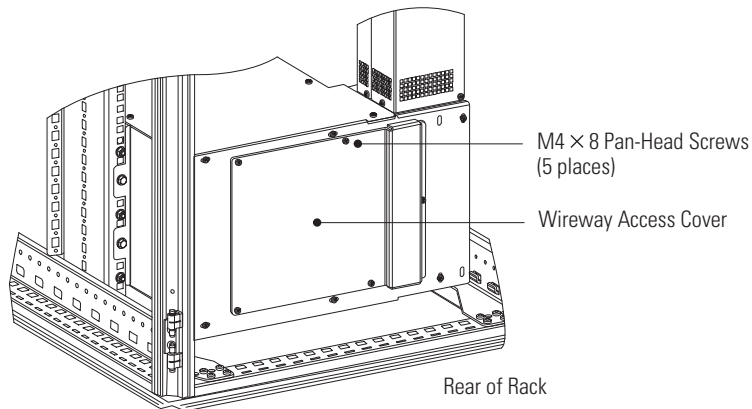

Figure 8. Wireway Access Cover Installation
21. Using five M4 x 8 pan-head screws, install the wireway access cover. See Figure 8. Torque the screws to $1.7 \pm 0.2 \text{ Nm}$ ($15 \pm 2 \text{ lb in}$).